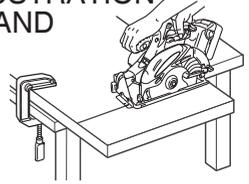

Fig. 4
30. **WARNING:** It is important to support the work piece properly and to hold the saw firmly to prevent loss of control which could cause personal injury. Fig. 4 illustrates typical hand support of the saw.